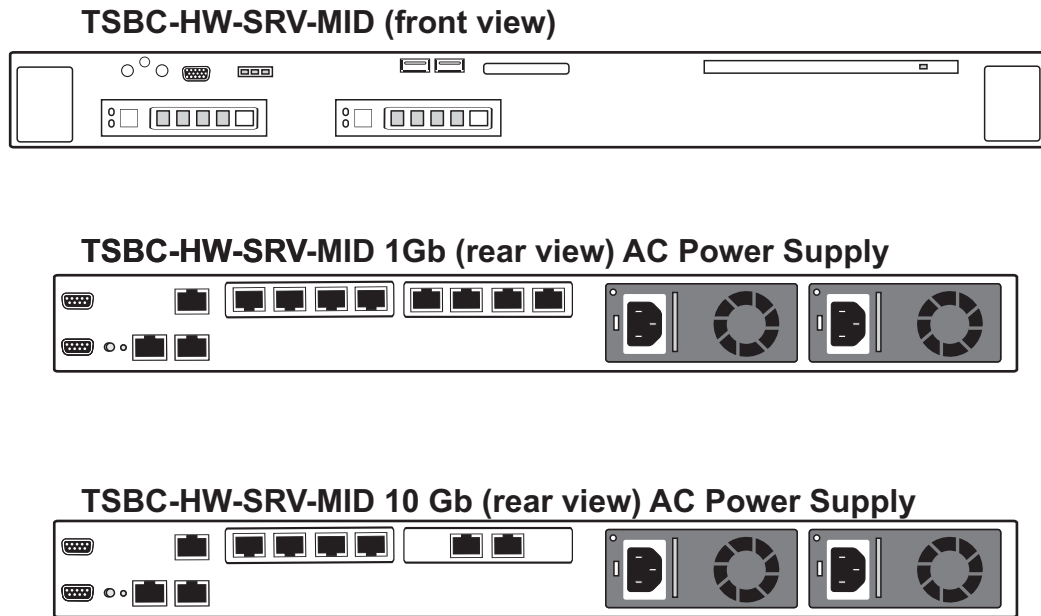

Figure 1.2 TSBC-HW-SRV-MID
- TSBC-HW-SRV-MID, (figure 1.2 on page 4)